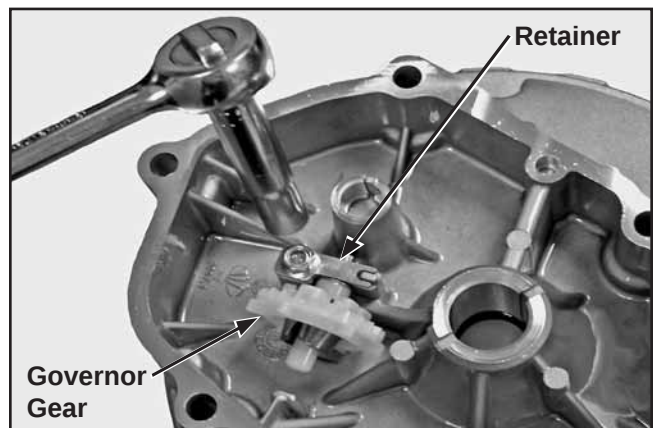

Figure 10-9. Installing Governor Gear.
1. Install the governor gear and retainer, and torque the hex flange screw to $9.5 \text{ N}\cdot\text{m}$ (84 in. lb.). See Figure 10-9.